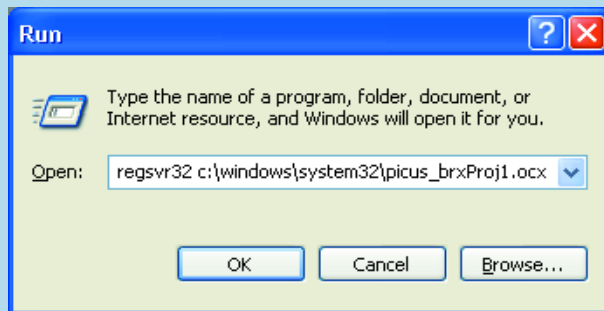
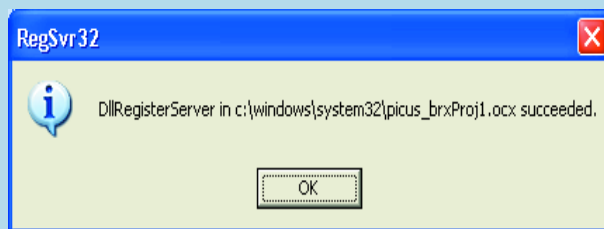

Figure 2. The Run dialogue box, which everybody must surely have used at some stage.
Figure 3. When this message appears the ActiveX component has been correctly registered.
3. Click on Start, Run and type in the command **regsvr32 picus_brxProj1.ocx** (**Figure 2**). When this has finished, you should get the message shown in **Figure 3**.